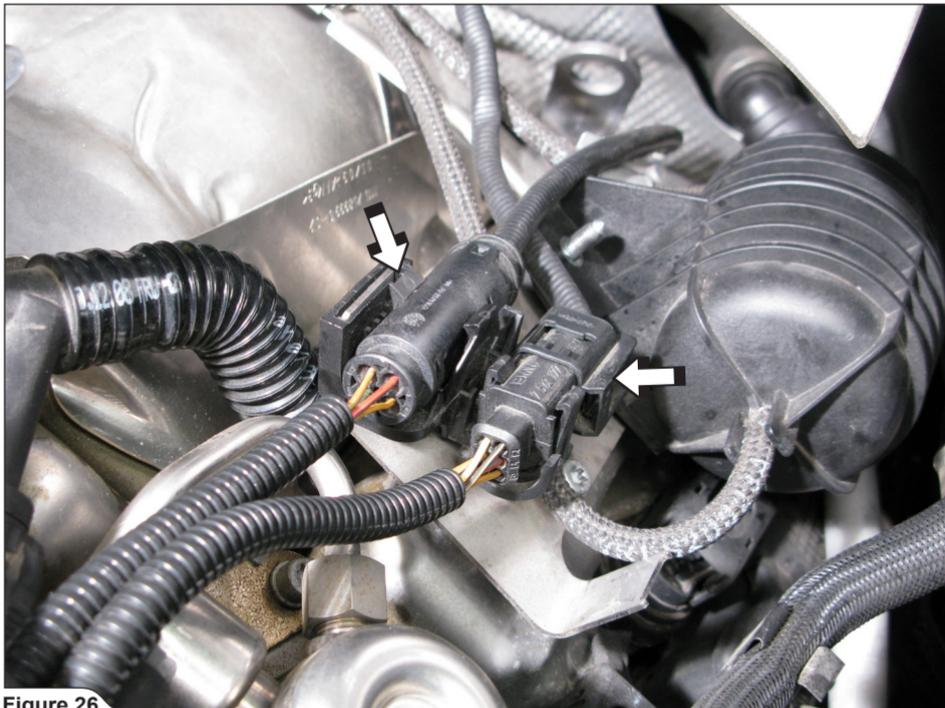

Figure 26
6. For optional Down Pipes only: install vacuum container and lambda connectors (Figure 26).